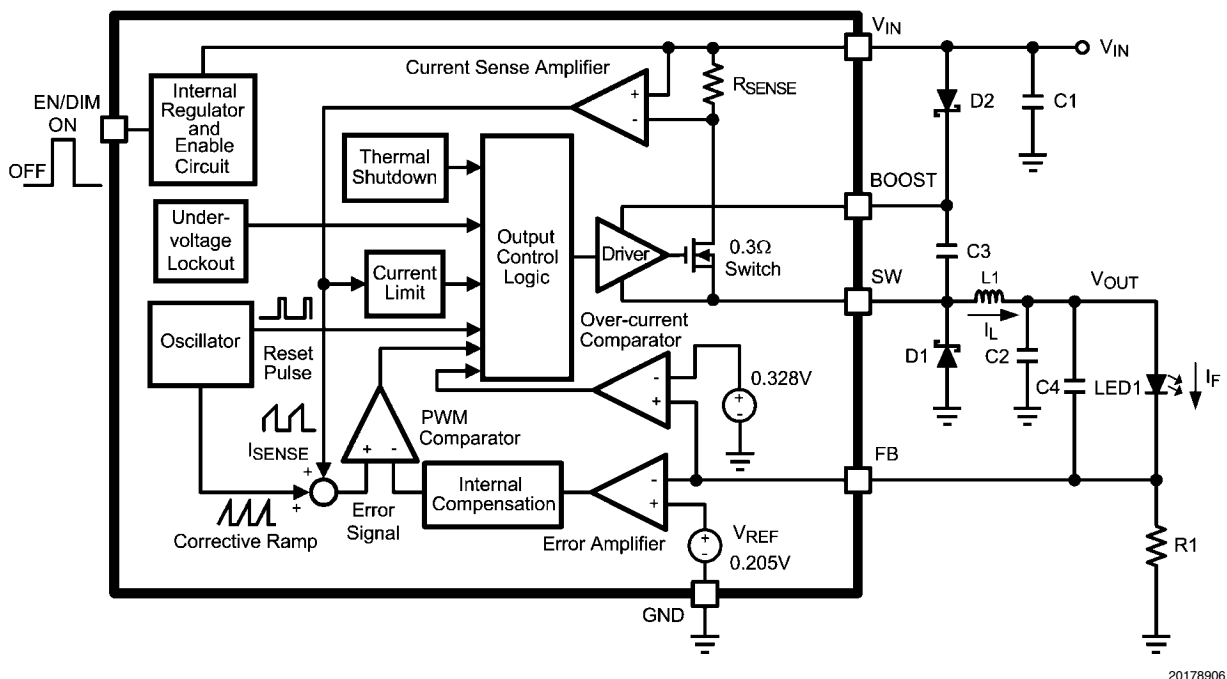
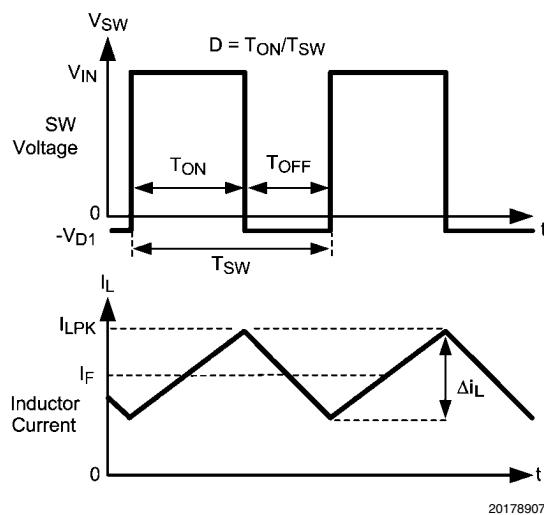

FIGURE 1. Simplified Block Diagram
FIGURE 2. SW Pin Voltage and Inductor Current Waveforms of LM3405
The following description of operation of the LM3405 will refer to the Simplified Block Diagram (*Figure 1*) and to the waveforms in *Figure 2*. The LM3405 supplies a regulated output current by switching the internal NMOS power switch at constant frequency and variable duty cycle. A switching cycle begins at the falling edge of the reset pulse generated by the internal oscillator. When this pulse goes low, the output control logic turns on the internal NMOS power switch. During this on-time, the SW pin voltage (V_{SW}) swings up to approximately V_{IN} , and the inductor current (I_L) increases with a linear slope. I_L is measured by the current sense amplifier, which generates an output proportional to the switch current. The sense signal is summed with the regulator's corrective ramp and compared to the error amplifier's output, which is proportional to the difference between the feedback voltage and V_{REF} . When the PWM comparator output goes high, the internal power switch turns off until the next switching cycle begins. During the switch off-time, inductor current discharges through the catch diode D1, which forces the SW pin to swing below ground by the forward voltage (V_{D1}) of the catch diode. The regulator loop adjusts the duty cycle (D) to maintain a constant output current (I_F) through the LED, by forcing FB pin voltage to be equal to V_{REF} (0.205V).
Capacitor C3 and diode D2 in *Figure 1* are used to generate a voltage V_{BOOST} . The voltage across C3, $V_{\text{BOOST}} - V_{\text{SW}}$, is the gate drive voltage to the internal NMOS power switch. To properly drive the internal NMOS switch during its on-time, V_{BOOST} needs to be at least 2.5V greater than V_{SW} . Large value of $V_{\text{BOOST}} - V_{\text{SW}}$ is recommended to achieve better efficiency by minimizing both the internal switch ON resistance ($R_{\text{DS(ON)}}$), and the switch rise and fall times. However, $V_{\text{BOOST}} - V_{\text{SW}}$ should not exceed the maximum operating limit of 5.5V.
The first method is shown in the Simplified Block Diagram of Figure 1. Capacitor C3 is charged via diode D2 by V_{IN} . During a normal switching cycle, when the internal NMOS power switch is off (T_{OFF}) (refer to Figure 2), V_{BOOST} equals V_{IN} minus the forward voltage of D2 (V_{D2}), during which the current in the inductor ($L1$) forward biases the catch diode D1 (V_{D1}). Therefore the gate drive voltage stored across C3 is:
The inductor value determines the output ripple current (Δi_L , as defined in Figure 2). Lower inductor values decrease the size of the inductor, but increase the output ripple current. An increase in the inductor value will decrease the output ripple current. The ratio of ripple current to LED current is optimized when it is set between 0.3 and 0.4 at 1A LED current. This ratio r is defined as: